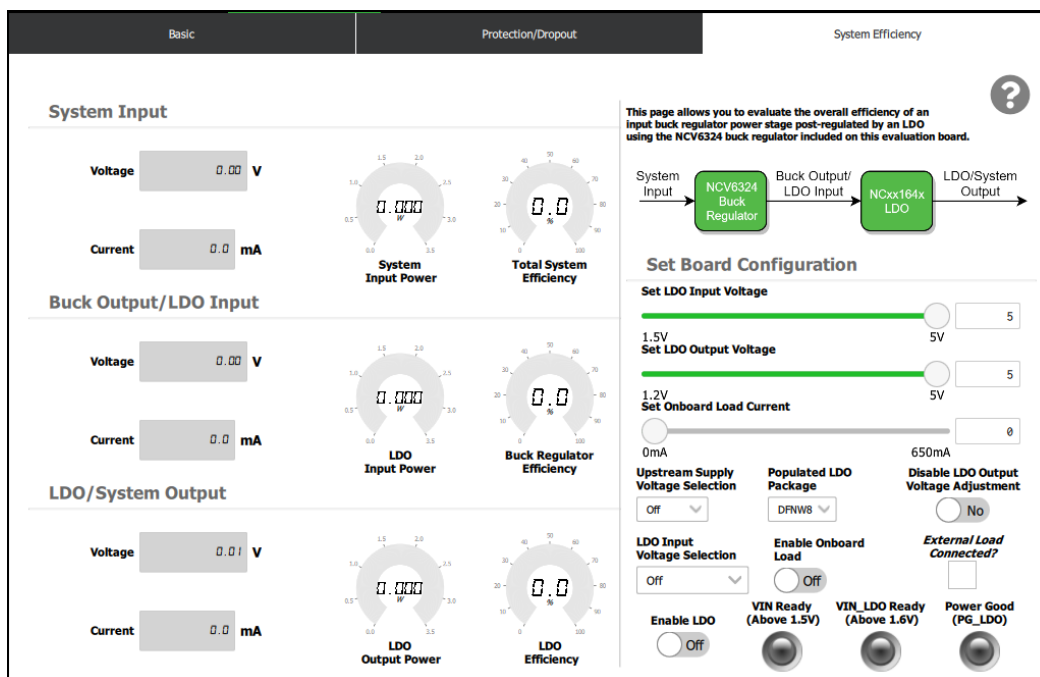

Figure 5: "System Efficiency" UI view
8. The “System Efficiency” view (shown in Figure 5) can be used to evaluate the total efficiency of a buck regulator/LDO DC-DC step-down power distribution topology using the NCV6324 synchronous buck regulator included on the EVB.